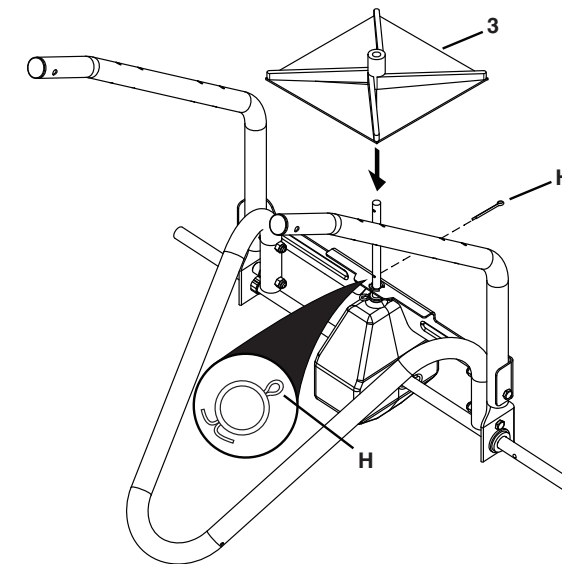

Figure 4
STEP 4: (SEE FIGURE 4)
- Slide the spreader impeller (3) onto the spreader shaft and secure it with a 1/8" x 1-1/2" cotter pin (H) by spreading the ends of the cotter pin.